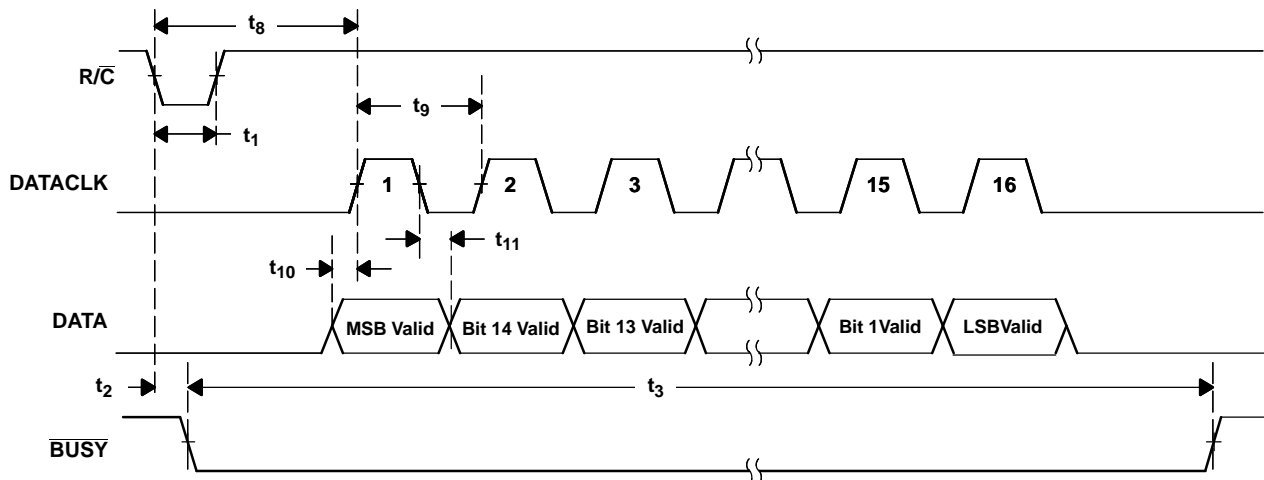

Figure 4. Serial Data Timing Using Internal Clock ( $\overline{\text{CS}}, \overline{\text{EXT}/\overline{\text{INT}}}$  and TAG Tied Low)
**Table 1. Input Range Connections (see Figure 4 for complete information)**